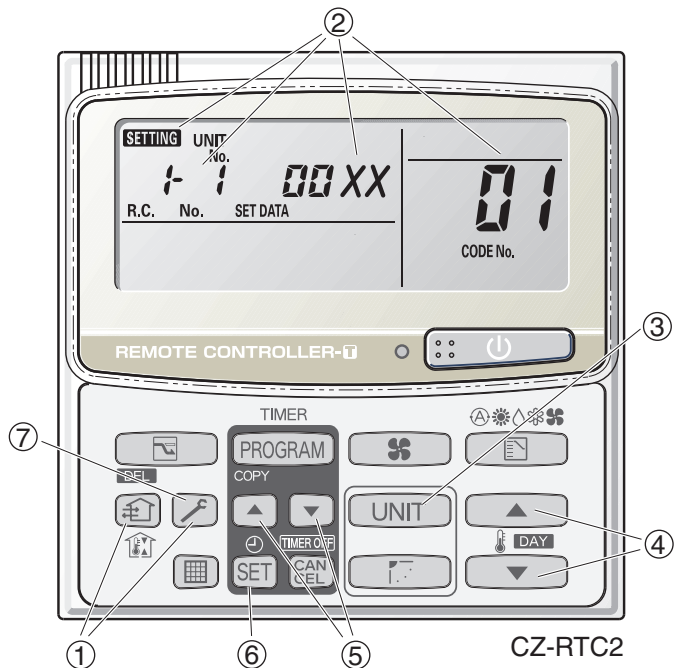

Fig. 7-1
- "**SETTING**," unit No. "**1-1**" (or "**ALL**" in the case of group control), item code "**01**," and settings data "**00XX**" are displayed blinking on the remote controller LCD display (Fig. 7-1). At this time, the indoor unit fan (or all indoor unit fans in the case of group control) begins operating.